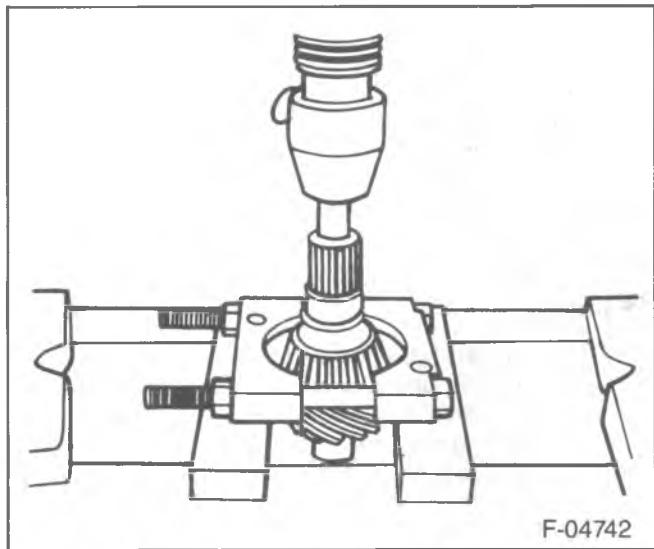
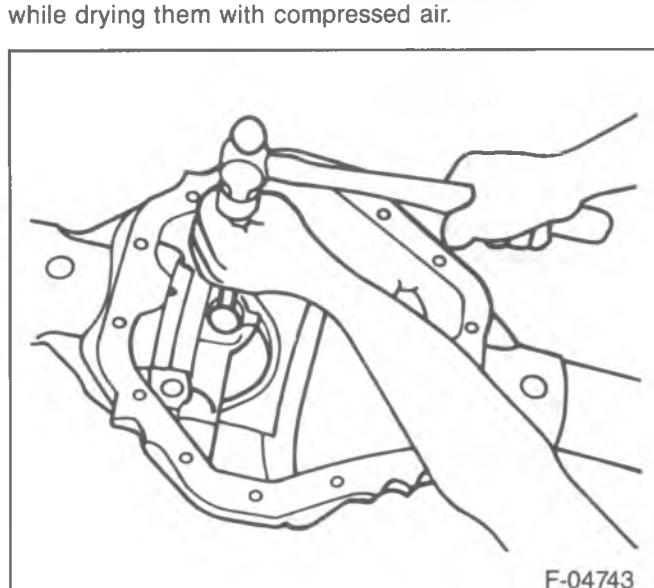

Figure 71—Removing the Inner Pinion Bearing
Figure 72—Removing the Pilot Bearing
22. Collapsible spacer (12) from the pinion.
23. Inner bearing (13) from the pinion (14).
- Press the bearing from the pinion using J-22912-01 (figure 71).
24. Pinion seal (5) from the pinion cage.
25. Front bearing (6) from the cage.
27. Pilot bearing (15) from the axle housing using a hammer and brass drift (figure 72).